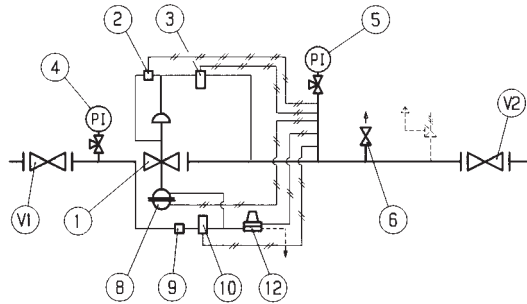

Fig. 25
5.5 MESSA IN SERVIZIO REGOLATORE APERFLUX 851 CON MONITOR INCORPORATO PM/819 E VALVOLA ACCELERATRICE (FIG. 25)
5.5 COMMISSIONING THE REGULATOR APERFLUX 851 WITH INCORPORATED PM/819 MONITOR AND ACCELERATING VALVE (FIG. 25)
5.5 INBETRIEBNAHME DES REGLERS APERFLUX 851 MIT INTEGRIERTEM MONITOR PM/819 UND SCHLIESSBESCHLEUNIGER (FIG. 25)
5.5 MISE EN SERVICE DU DÉTendeur APERFLUX 851 AVEC MONITOR INCORPORÉ PM/819 ET VANNE D'ACCÉLÉRATION (FIG. 25)
5.5 PUESTA EN SERVICIO DEL REGULADOR APERFLUX 851 CON MONITOR INCORPORADO PM/819 Y VÁLVULA ACELERADORA (FIG. 25)
5.5 ATIVAÇÃO DO REGULADOR APERFLUX 851 COM MONITOR INCORPORADO PM/819 E VÁLVULA ACELERADORA (FIG. 25)